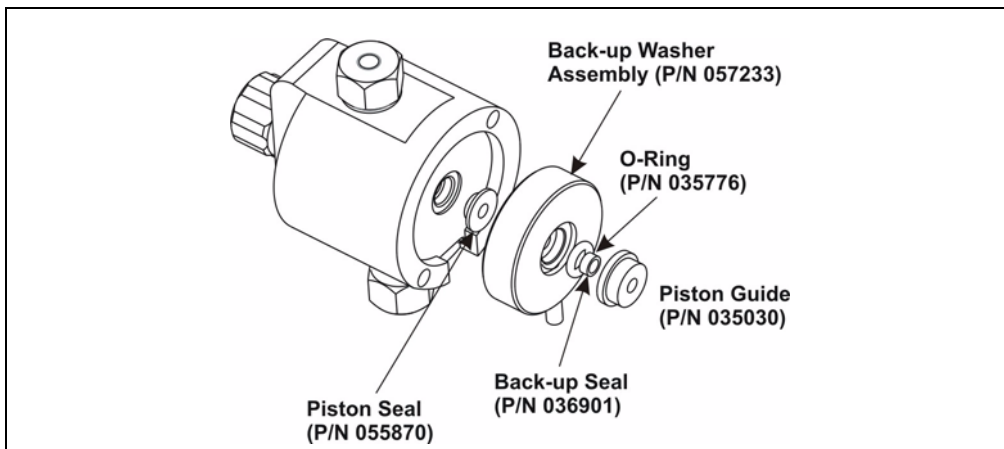

Figure 5-7. Pump Head Assembly
6. Place the head, front end down, on a clean work area. Lift off the piston guide and back-up washer to expose the seal (see Figure 5-7).
4. While holding the head firmly against the pump housing to compensate for the spring loading, remove the two nuts (see Figure 5-7).